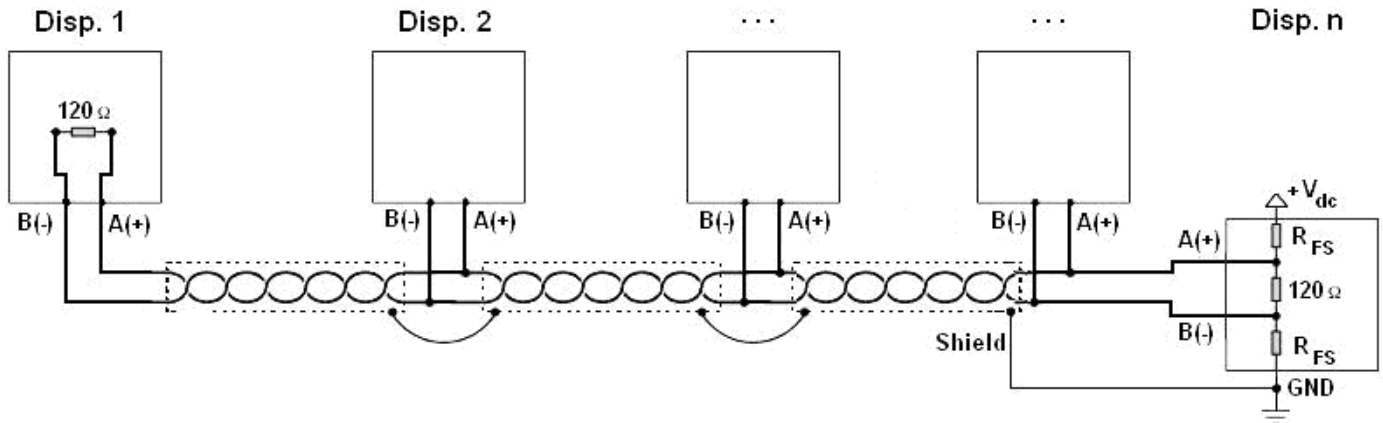

Figure 1: electrical diagram of RS485 connections.
- The shielding can be connected into a single point of the entire network (as shown in Figure 1) or both its ends, however it's important that **all the masses have the same potential**, in order to avoid the forming of current rings.
- On the RS485 network normally one connects 2 **termination resistances** equal to the characteristic impedance of the cable (the typical value is 120 Ω, see Figure 1), **ONLY** on the 2 devices **which are at the 2 ends of the cable**. The terminal resistance is not supplied with the ports of the indicator.
To create a resistive divider which maintains this difference of potential also when all the transmitters are disabled, inert in the RS485 port of the indicator where there are the termination resistances, the **polarisation** or **fail-safe resistance** ( $R_{FS}$  in Figure 1). The value of these resistances is between 390 Ω and 2,2 kΩ.